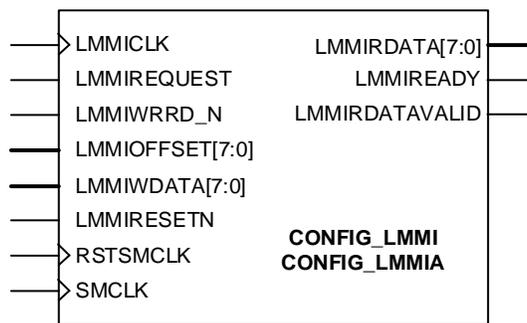

Figure D.1. CONFIG_LMMI(A) Primitive Pin Diagram
The pin diagram of CONFIG_LMMI(A) primitive is shown in Figure D.1. The description of the I/O and parameters are shown in Table D.1 and Table D.2.